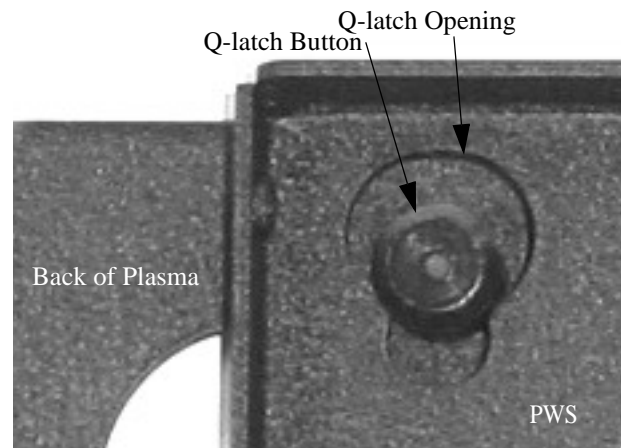

FIGURE 2. ENGAGE Q-LATCH
3. Using two people, align the Q-latch buttons with the Q-latch openings and install the display. Make sure the buttons of the Q-latch bracket fully engage all the Q-latch openings on the PWS (see Figure 2).